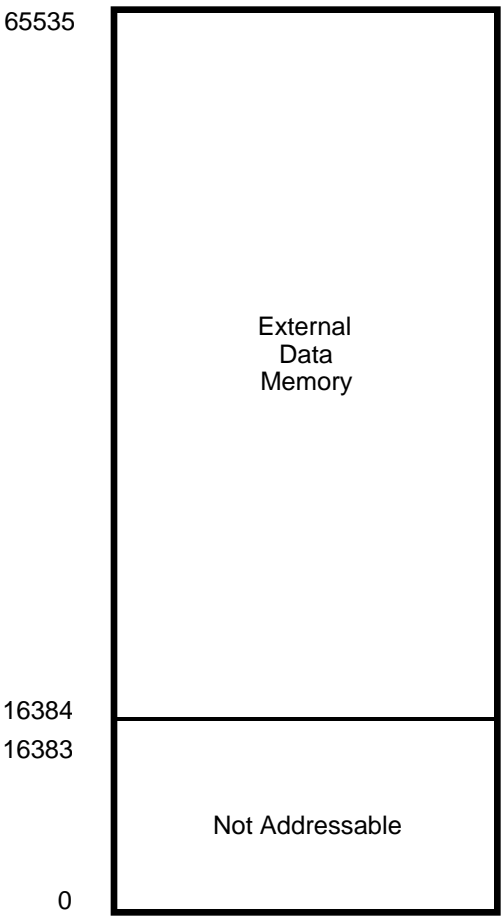

Figure 20. Data Memory Configuration
**Data Memory (/DM).** The ROM version can address up to 48 KB of external data memory space beginning at location 16384. The ROMless version can address up to 64 KB of external data memory. External data memory may be included with, or separated from, the external program memory space. /DM, an optional I/O function that can be programmed to appear on pin P34, is used to distinguish between data and program memory space (Figure 20). The state of the /DM signal is controlled by the type instruction being executed. An LDC opcode references PROGRAM (/DM inactive) memory, and an LDE instruction references DATA (/DM active Low) memory.
**Register File.** The Register File consists of four I/O port registers, 236 general-purpose registers and 16 control and status registers (Figure 18). There are eight further registers for I/O ports 4, 5 and 6 in the Expanded Register File (Bank F, R9-R2) (Figure 20).
The upper nibble of the register pointer (Figure 20) selects which group of 16 bytes in the register file, out of the full 256, will be accessed. The lower nibble selects the expanded register file bank and in the case of the Z86C61/62/96, only Bank F is implemented. A 0H in the lower nibble will allow the normal register file to be addressed, but any other value from 1H to FH will exchange the lower 16 registers in favor of an expanded register group of 16 registers.